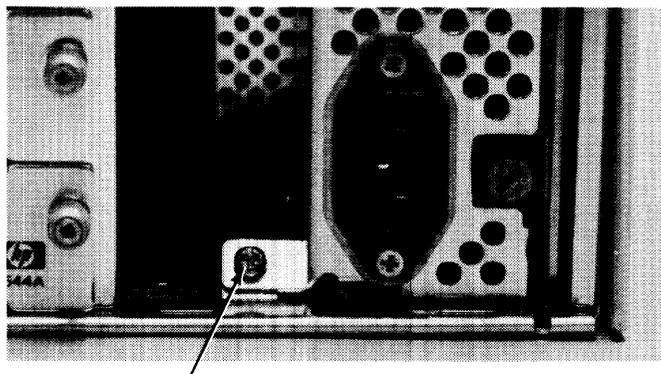

Figure 2-6. Power Supply Grounding Tab Screw
3. Remove the power supply grounding tab screw. Refer to Figure 2-6.